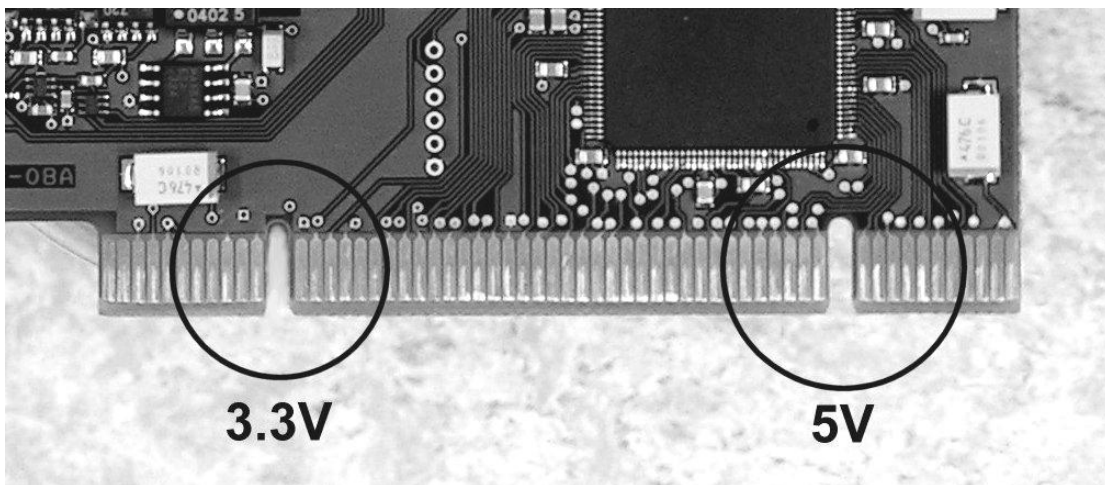

Figure 1: The PCI connector with its voltage keying
- If the board has two keys as seen in Figure 1, then it can be mounted in both 5V PCI slots and 3.3 V PCI slots. The PCI standard refers to this type of card as “Universal cards”.